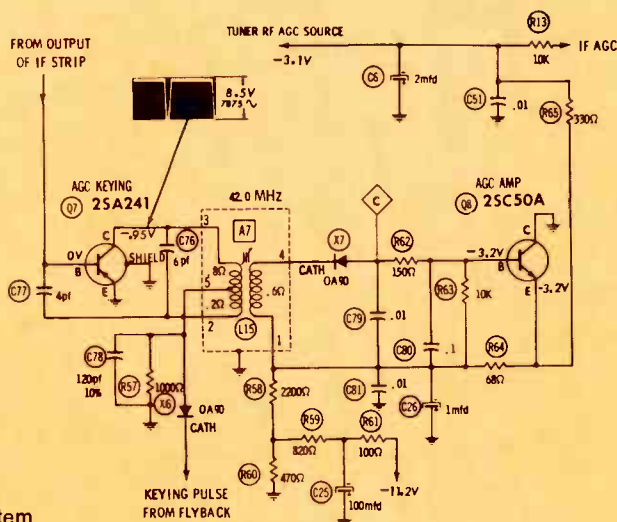
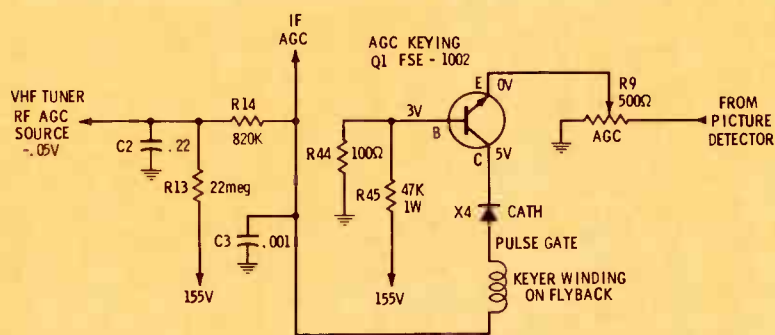
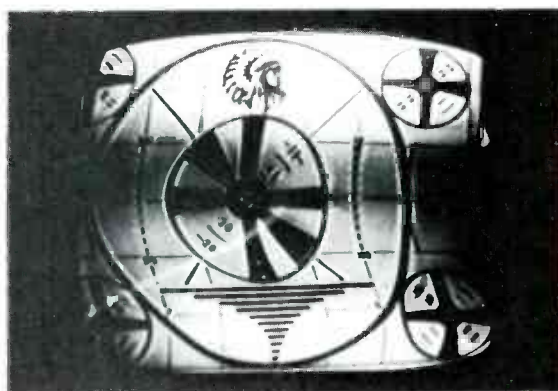

Fig. 9 Schematic diagram of a typical solid-state AGC system.
Fig. 10 Solid-state keyed-AGC stage used in a hybrid receiver.
Fig. 11 Example of overloaded picture accompanied by horizontal pulling.
A typical transistor AGC system is shown in Fig. 9. At first glance it appears that the circuit configuration is quite different from that employed in a tube-type receiver. First of all, transistor Q7 is not a DC amplifier—instead, it is an IF amplifier. However, it is not a conventional IF stage in that it branches off from the main IF section and amplifies the IF signal solely for AGC use. Furthermore, transistor Q7 is keyed by a pulse from the flyback system so that the transistor does not conduct continuously. The keying pulse is obtained from a small winding on the flyback transformer. Thus, the -0.95 volt measured at the collector of Q7 is the average rectified DC voltage developed by semiconductor diode X6.
ranged to provide more negative bias voltage when the IF signal level increases. Observe Fig. 10. Transistor Q1 operates as a keyed-AGC stage. The emitter obtains video signal from the picture detector, the base is fixed-biased at 3 volts, and the collector is pulsed from a winding on the flyback transformer. Hence, the transistor conducts only during the flyback interval.
Note that Q1 in Fig. 10 is connected as a common-emitter amplifier. This configuration is practical because the AGC line to the IF and RF sections controls the grids of tubes that have a high impedance. The 5 volts at the collector of Q1 is obtained chiefly by pulse rectification through diode X4. Now, consider what happens when the picture detector applies video-signal voltage to the emitter of Q1. This is a negative-going voltage that increases the forward bias on the transistor.
The pulse output from Q1 in Fig. 10 is filtered by C3, R14, and C2. It is evident that any defect in the AGC system which prevents the control voltage from increasing as described, can result in the hybrid receiver displaying a negative picture.
Suppose that the AGC control in Fig. 10 is worn or open. The video waveform at the emitter of Q1 will be weak or absent. An ohmmeter check will confirm the suspicion of a defective AGC control. In case the transistor is defective, the normal DC voltages will not be present—if a junction is open, there will be no current flow and the electrode voltages will be quite different. On the other hand, if a junction is short-circuited, you will measure the same voltage at both junction terminals. Sometimes a junction merely develops a poor front-to-back ratio. In this case the DC voltages will be more or less abnormal, and the AGC output voltage will change only slightly when the signal level is increased.
This symptom can be caused by defects in the RF, IF, or video-amplifier section, as previously explained. A preliminary localization test is made by clamping the AGC line. Then, if normal picture and sound reproduction are obtained, the trouble will be found in the AGC system. A defect is present that cuts off the IF transistors. In the configuration shown in Fig. 9, for example, a very slight negative voltage, or zero volts, would be measured on the AGC line.
With reference to Fig. 9, possible causes of no sound and no picture, due to AGC trouble are:
An overloaded picture, if caused by AGC trouble, becomes normal when the AGC line is clamped. If a measurement of the bias voltage output from the AGC section shows lack of adequate control voltage with a normal signal level present, the suspicion of AGC trouble is confirmed. With reference to Fig. 9, diode X6 is a ready suspect. If the diode is open-circuited, the keying pulse is stopped, and the AGC system cannot function. Transistor Q7 is cut off, and X7 can feed no rectified voltage to Q8. In turn, the AGC control voltage remains at -3.2 volts regardless of the signal level. When X6 is open, and with normal IF signal level present, a direct clue is positive DC voltage at the collector of Q7, instead of the normal -0.95 volt. In this situation, Q8 operates as a diode rectifier for the IF signal, and develops a positive collector voltage.
- a. Pulse diode open (X6 in Fig. 9).
- b. Rectifier filter capacitor shorted (C79 or C80 in Fig. 9).
- f. Open resistor, such as R57 in Fig. 9 (rare cases only).
An overloaded picture with intercarrier buzz is often accompanied by horizontal pulling, as illustrated in Fig. 11. Overload results in compression or clipping of the sync pulses, which prevents the horizontal-AGC system from locking the picture tightly. Suppose that X6 in Fig. 9 is shorted. In this case, the keying pulse will still be applied to the collector of transistor Q7, but the only rectifying action in the circuit will be that of collector-junction action. Consequently, the DC voltage at the collector will be subnormal, and will measure about -0.2 volt. The DC voltage at the base of
With reference to Fig. 9, possible causes of a weak picture due to AGC trouble are:
(Fig. 9) is leaky, the DC voltages at the base and emitter will be subnormal due to excessive loading imposed by leakage to ground via the collector. In a typical trouble situation the base and emitter voltages are only half their normal value. Another useful clue in this situation is intercarrier buzz accompanying the weak picture.
A weak picture can result when C77 in Fig. 9 is open, because transistor Q7 is no longer neutralized. The stage becomes regenerative, and L15 resonates at a frequency higher than 42 MHz. In turn, reduced signal voltage is fed to X7. If the defect in C77 is overlooked, an attempt to obtain normal operation may be sought by realigning L15. However, this does not produce the desired result. As the slug is turned into the transformer, L15 resonates at 42 MHz, but the stage then becomes an oscillator instead of an amplifier. Oscillation results in excessive 42-MHz voltage being fed to X7, and the picture symptom is suddenly reversed. Instead of a weak picture, an overloaded picture is displayed on the picture-tube screen.
Off-valve resistors are less commonly encountered, but this possibility must not be overlooked. Suppose that R61 in Fig. 9 has increased in value. In this case, the picture will have low contrast, and a hissing noise will be audible in the sound. Measurement of the DC voltages at Q8 provides the preliminary clue; both the base and emitter voltages will be subnormal and in a typical trouble situation will measure only —1 volt. Again, consider a trouble situation caused by an increase in value of R65 in Fig. 9. The DC voltage measurements show an excessive voltage drop across R65. Although the emitter end of the resistor has a higher voltage than normal, the AGC-line end of R65 has lower voltage than normal. An ohmmeter check confirms that R65 has increased in value.
Next, consider a weak-picture symptom when a transistor AGC section is used in a hybrid receiver. With reference to Fig. 10, a weak picture is caused by excessive output control voltage from the AGC circuit. The most likely culprit is AGC control R9. When the control becomes worn, it can develop excessively high resistance near the grounded end. The control will then lack adequate range, and excessive video signal will be fed to the emitter of the transistor, regardless of the control setting. An ohmmeter check will confirm the suspicion of a defective AGC control.
- Pulse filter diode open (X6 in Fig. 9 and X4 in Fig. 10).
- Leaky neutralizing capacitor (C77 in Fig. 9).
Brightness modulation can also occur due to AGC trouble without a picture-pulling symptom. For example, if R65 in Fig. 9 increases in value, the contrast will be low and brightness modulation will become apparent, as illustrated in Fig. 12. The bottom portion of the picture is excessively bright, while the top portion is comparatively dark. To confirm that brightness modulation is actually being caused by AGC trouble, clamp the AGC line. If the brightness-modulation symptom disappears, we know that the trouble will be found in the AGC section.
Brightness modulation can occur in any portion of the picture. For example, Fig. 13 illustrates brightness modulation chiefly through the center of a weak picture that is pulling, as a whole, to the right-hand side of the screen. If the AGC line is clamped, the symptoms disappear. Accordingly, the trouble is caused by a defect in the AGC section. With reference to Fig. 9, the most likely cause is transistor Q8. Leakage from collector to base can cause this picture symptom, which is accompanied by buzz in the sound. The DC voltages at base and emitter measure lower than normal.
However, practically the same symptom can be caused by an increase in value of R61 in Fig. 9. Again, the DC voltages at base and emitter of Q8 measure much lower than normal. Brightness modulation occurs in Fig. 13 because the picture is being pulled. In turn, the sync pulses of the video signal are not exactly in step with the keying pulses from the flyback transformer. The AGC keying stage does not supply a completely steady output voltage as the picture is scanned from top to bottom. This variation in AGC output produces the brightness modulation. ▲